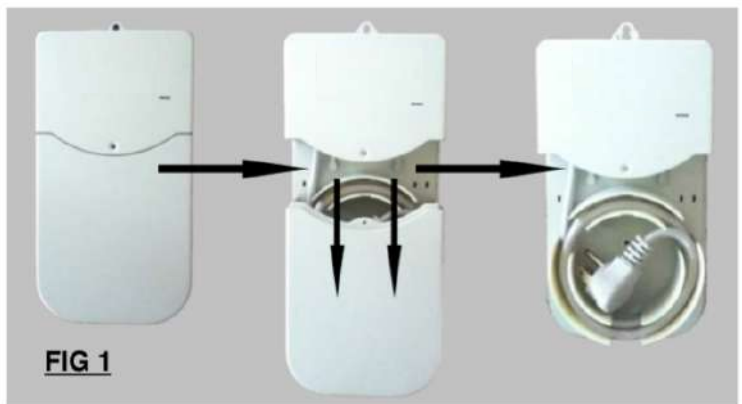

FIG 1
STEP 2: REMOVE CABLE STORAGE AND MANAGEMENT COVER (SEE FIG 1)